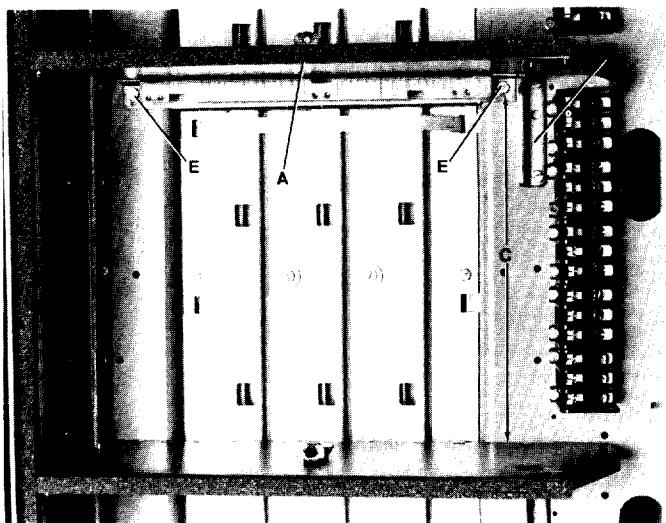

Figure 34. Mounting the horizontal shelf assembly.
1. Select the proper holes in left- and right-hand vertical steel plates for mounting the horizontal shelf (A) and support Bracket (B), Figure 34. The vertical distance (C) is equal to the height of the unit to be installed.
2. Mount shelf assembly (A) and support bracket with 1/4-20 self-threading screws at points (E) as shown in Figure 34.